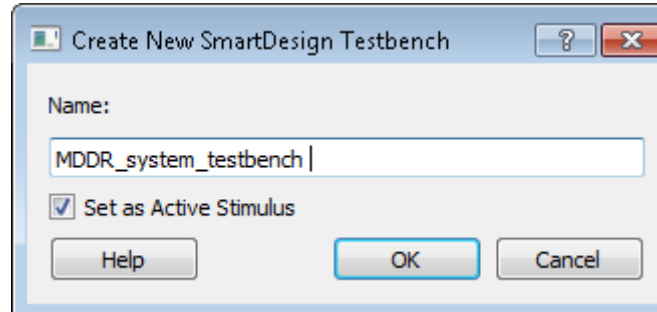

Figure 15. Create New SmartDesign Testbench Dialog Box
3. The **Create New SmartDesign Testbench** dialog box is displayed, as shown in Figure 15.